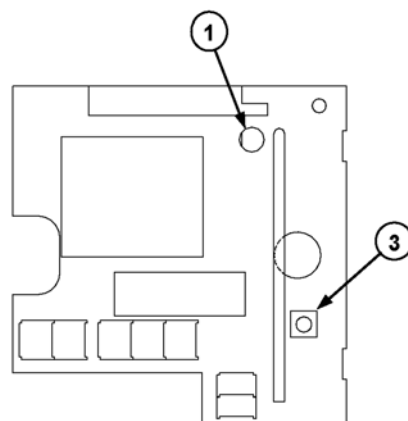

Fig. 3
In Fig. 3 is shown the receiver's internal layout, and the location of the self-learning button (3).
**Step 3.** After opening the case of the DRP A83 M01 wire it to the 230V~ power supply. At the start-up the led (1) will perform the sequence "green-red-green-red".
**Step 4.** Execute the self-learning procedure by pressing the button (3) Fig. 3 for one second, until the led (1) turns-on green. Now the receiver waits for a command, and as soon as it receives ones from the thermostat transmitter in "Test" mode, it learns his address and memorizes it. When correctly memorized the led (1) executes another sequence "green-red-green-red", and then the receiver returns to its normal working. The address is memorized in a nonvolatile way, so it is retained and used in the normal working even after a power supply failure. If mistakes occur, it is possible to execute the self-learning procedure again.